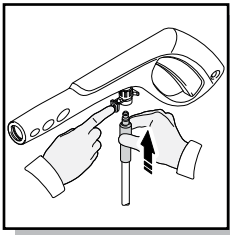

Fig. 5
- Connect the other end of the high pressure hose to the spray gun by inserting the brass metal tip of the high pressure hose into the fitting just ahead of the trigger guard. It will lock into the spray gun with a “click” (Fig 5). Confirm the hose is locked into the spray gun by pulling slightly on the hose. The hose is now securely attached to the spray gun.